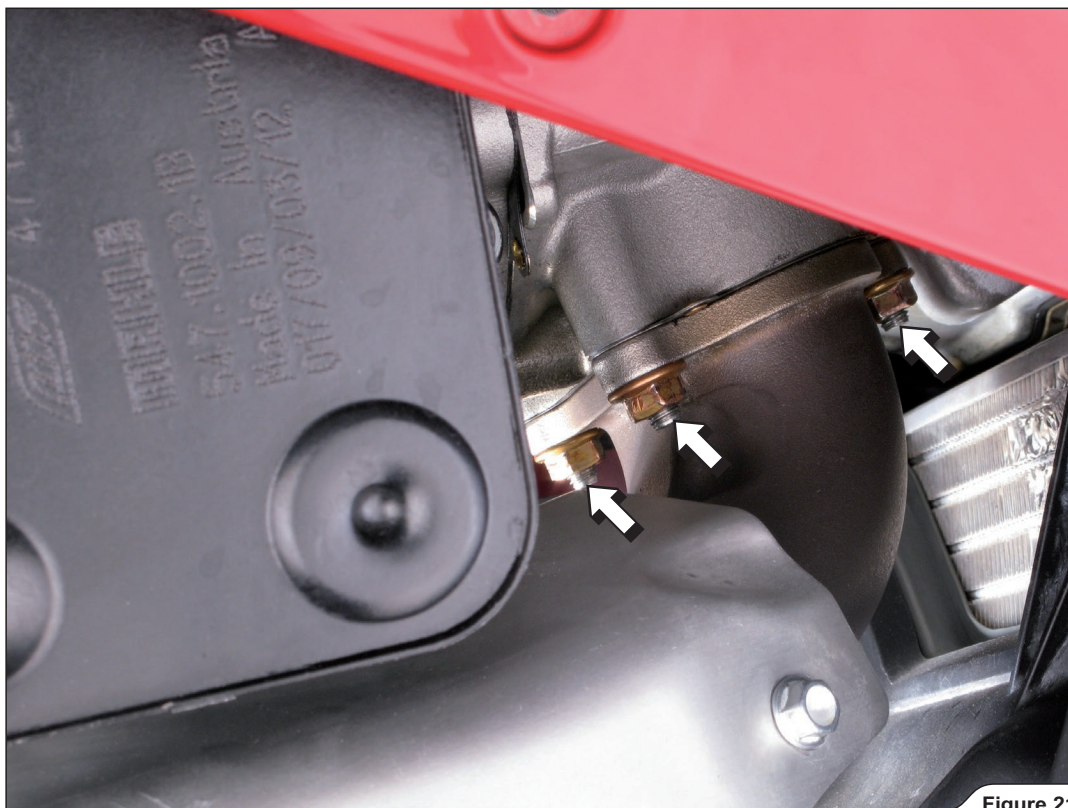

Figure 21
17. Unscrew the marked nuts and carefully remove front header pipe off the motorcycle (Figure 21).